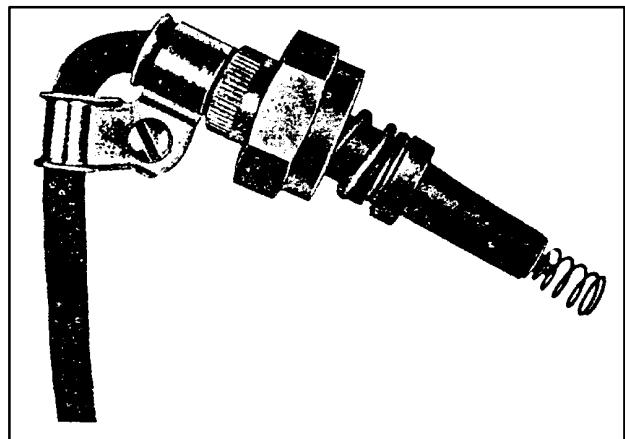

FIGURE 8-8. Typical method of clamping leads.
g. When lightweight harnesses are used and the conduit enters the spark plug at a severe angle, use clamps as shown in figure 8-8 to prevent overstressing the lead.